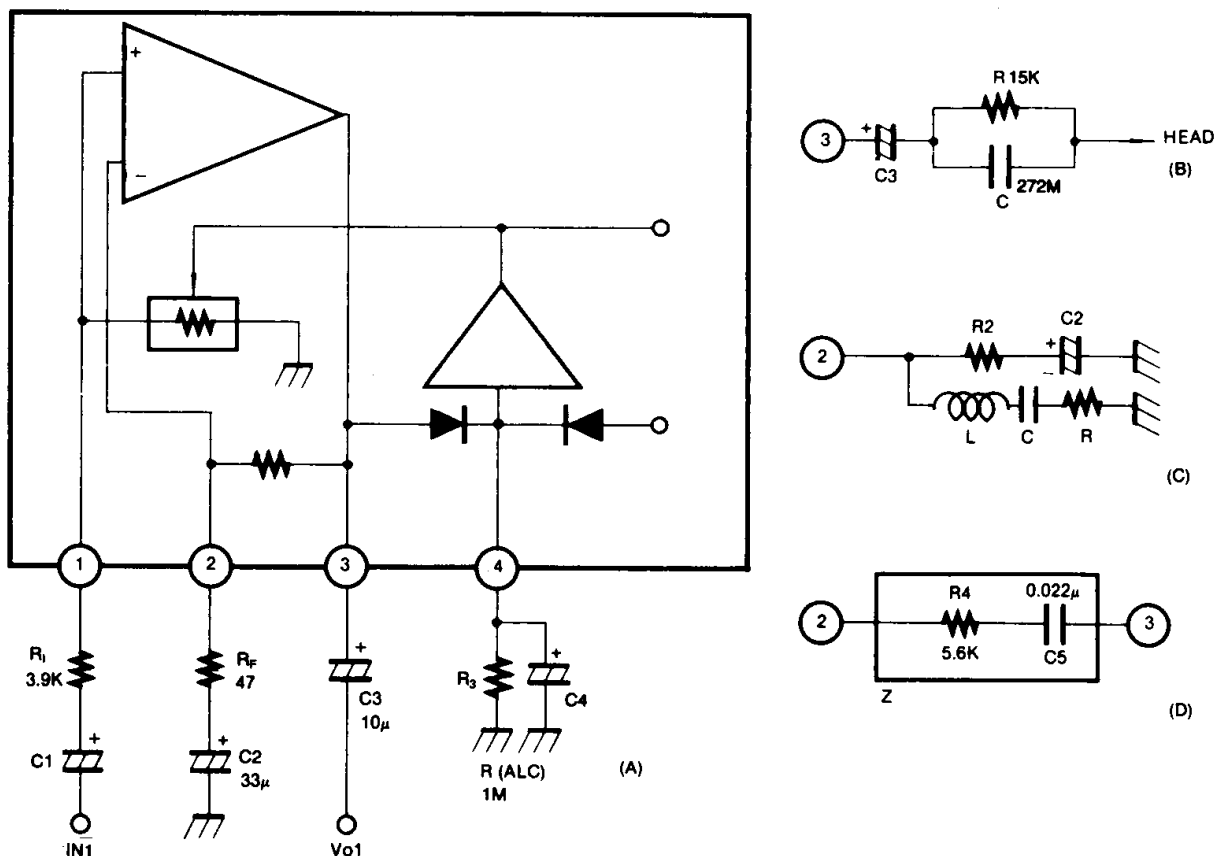

Fig. 3
2. Recording Amplifier (Figure 3 (A))
The recording amplifier requires a compensation circuit to correct loss at high frequencies. The compensation circuit may be either CR or LC resonance. The frequency response of the resonance circuit is fixed at $1 \sim 4KHz$. An example using a CR is shown in Figure 3 (B), and one using LC resonance is shown in Figure 3 (C).
As the Figure 3, because the R_f range is $47 \sim 100$ ohm normally at the set application, the matching between R3 and C4 occurs.